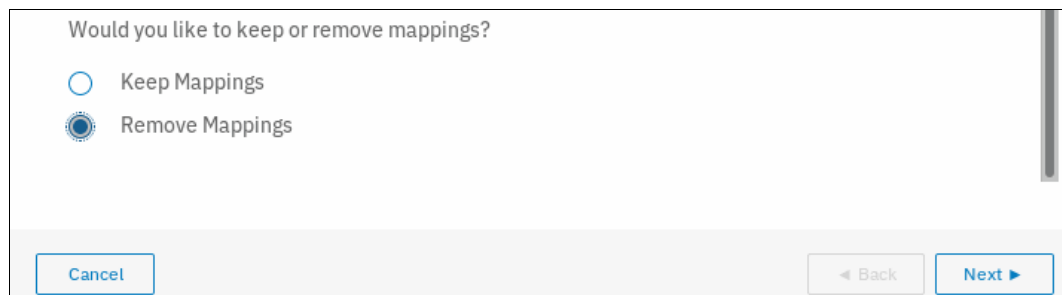

Figure 5-100 Mapping selection during removal of host member from host cluster
5. Select the option to indicate whether you want to keep the mappings after the host member is removed from the host cluster or to remove those mappings. In our example, we chose **Remove Mappings**, as shown in Figure 5-100.